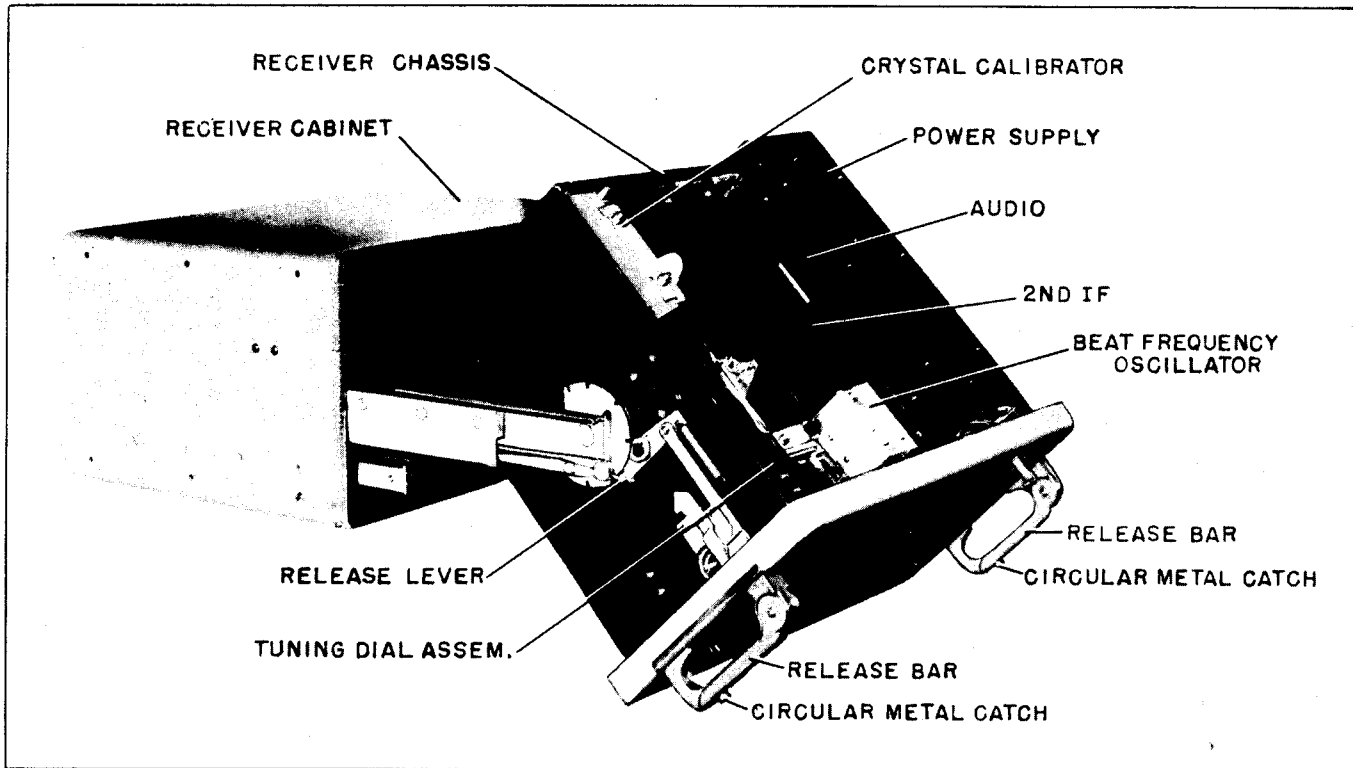
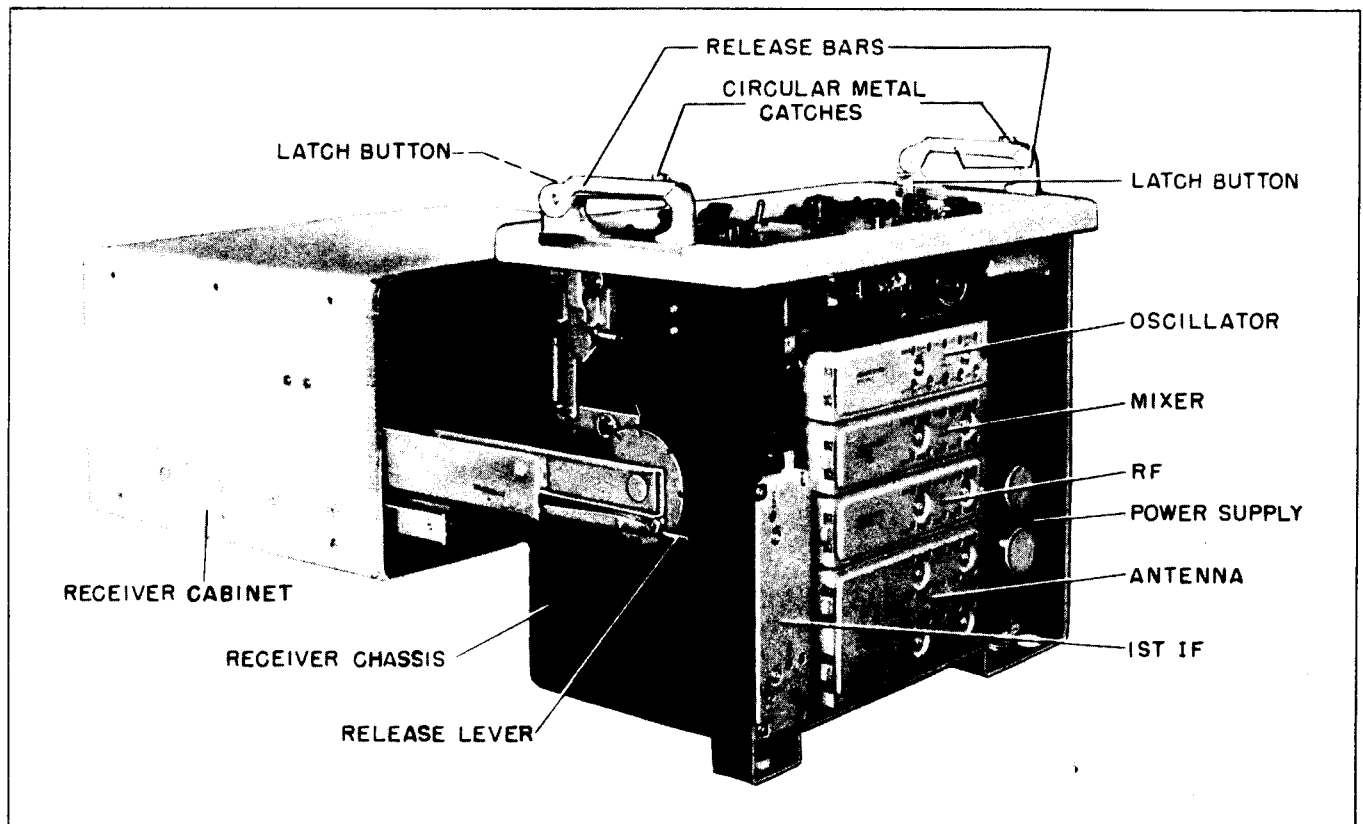

Figure 1-2. Chassis in Service Position, Top View
Figure 1-3. Chassis in Service Position, Bottom View
*d.* ASSEMBLY LOCATIONS.—As shown in figure 1-3, the antenna preamplifier, r-f amplifier, oscillator, mixer, and first i-f assemblies are accessible from the bottom of the chassis after it has been removed from the cabinet. Figure 1-2 shows a top view of the chassis from which the second i-f, audio, beat frequency oscillator, crystal controlled calibrator assemblies and power supply are accessible.